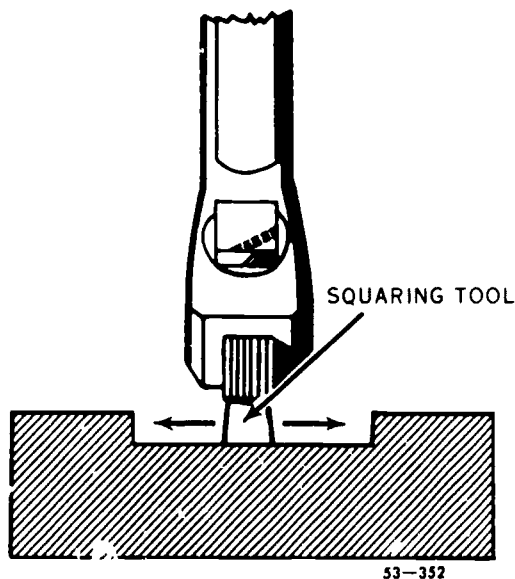
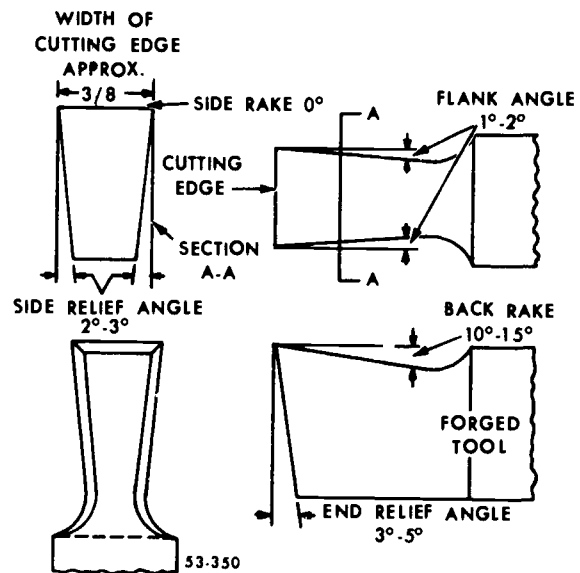

Figure 2-6 Squaring tool.
Figure 2-7 Squaring tool angles
**Squaring.** The squaring tool, shown in figure 2-6, has sharp corners on the ends of the cutting edge which allow it to produce  $90^\circ$  corners. You use it primarily to finish the bottom and sides of shoulders, keyways, and grooves, as shown in figure 2-7.